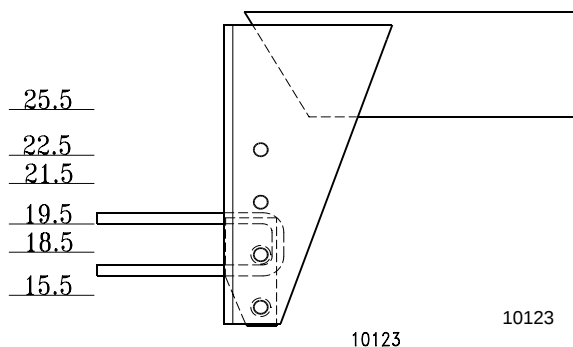

Figure 1-2
2. With drill tongue level, adjust drill hitch on drill tongue to match your tractor-drawbar height. Refer to Figure 1-2. You can turn the hitch over for a total of six different hitch heights.